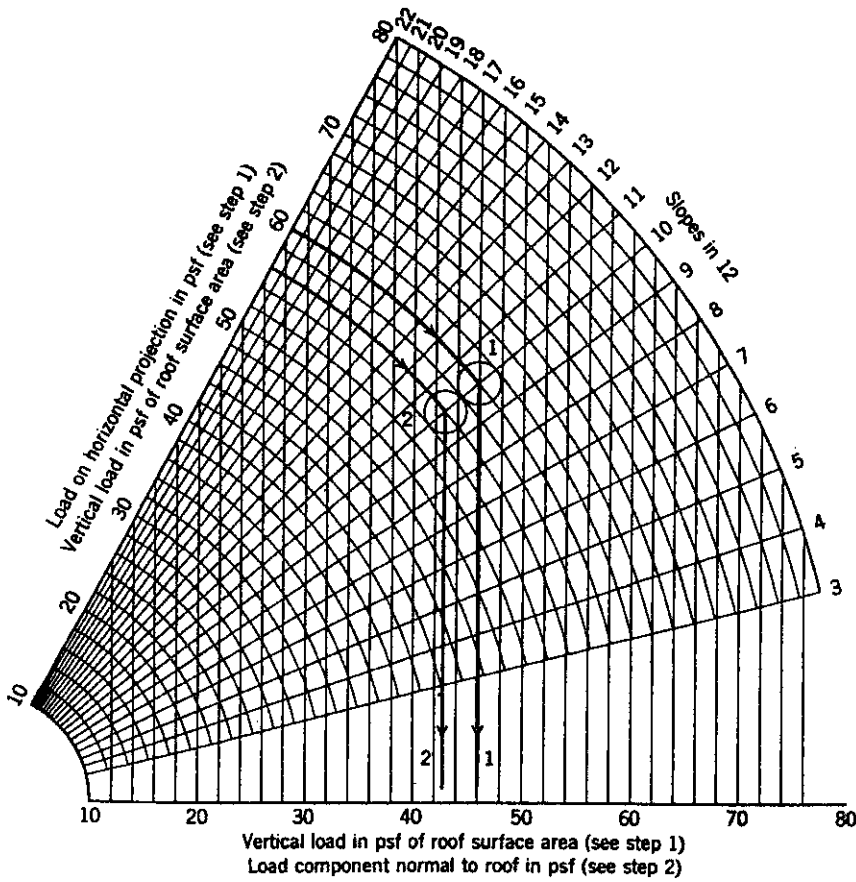

Figure 12. LOAD CONVERSION
- 9.7 For steeper sloping roofs, it is customary to adjust the load so as to express them in terms of square feet of roof surface. (See Figures 12 and 13.) For example, 10 lb dead load (6.7 lb for deck and 3.3 lb for roofing) is the vertical load of one square foot of sloping roof surface. Snow load is usually expressed in pounds per square foot of the horizontal projection of the sloping roof surface. Therefore, the vertical snow load must be converted to the vertical psf load of sloping roof surface. For example, a 60 psf snow load on the horizontal projection is equivalent to a vertical load of 46 psf on a 10 in 12 sloping roof surface. This combined with 10 psf dead load results in a total vertical load of 56 psf on the 10 in 12 sloping roof surface. The 56 psf total vertical load may then be converted to two components, one perpendicular or normal to the roof surface, and one parallel to the roof surface. In the example, the vertical load of 56 psf is equivalent to a component perpendicular to the roof of 43 psf and a component parallel to the roof of 37 psf.